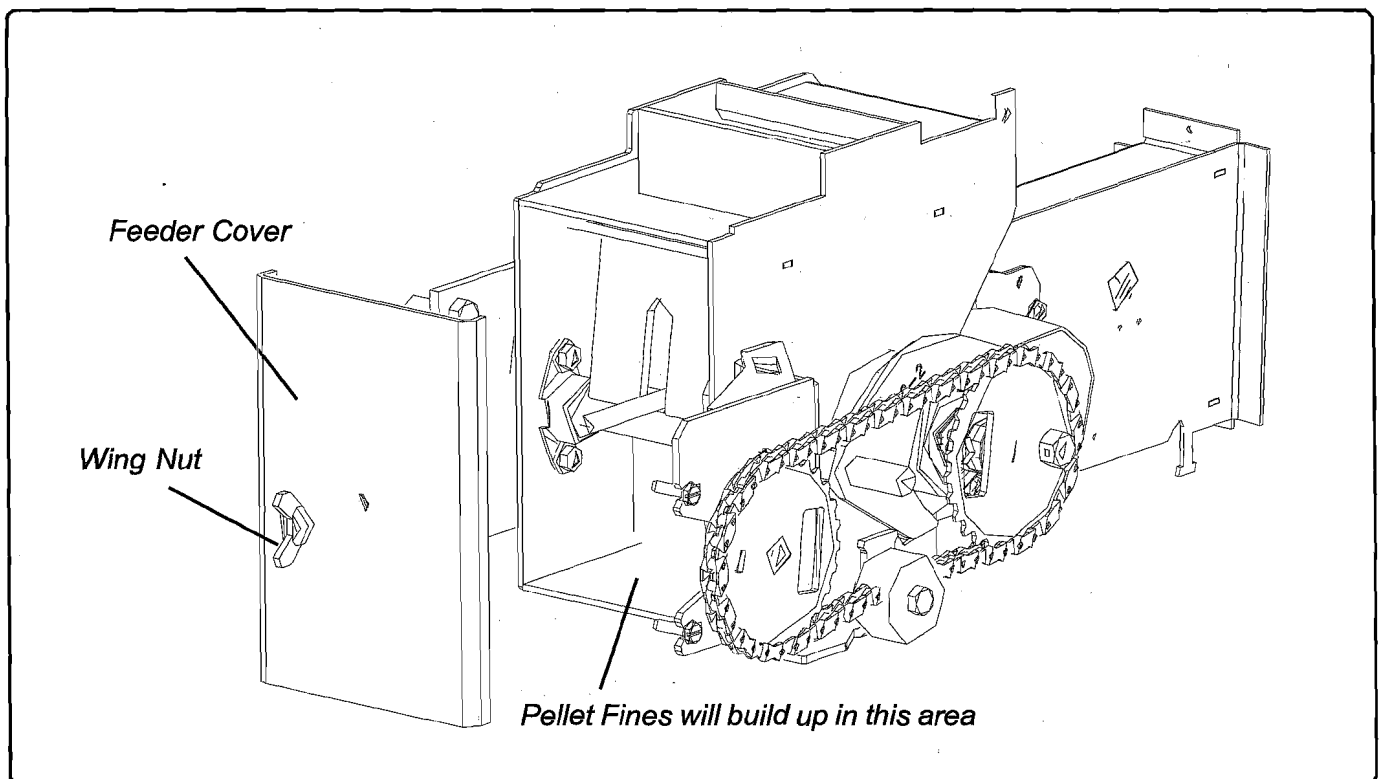

Fig. 43
2. Remove wing nut and feeder cover on the right side of the feeder. See Fig. 43.